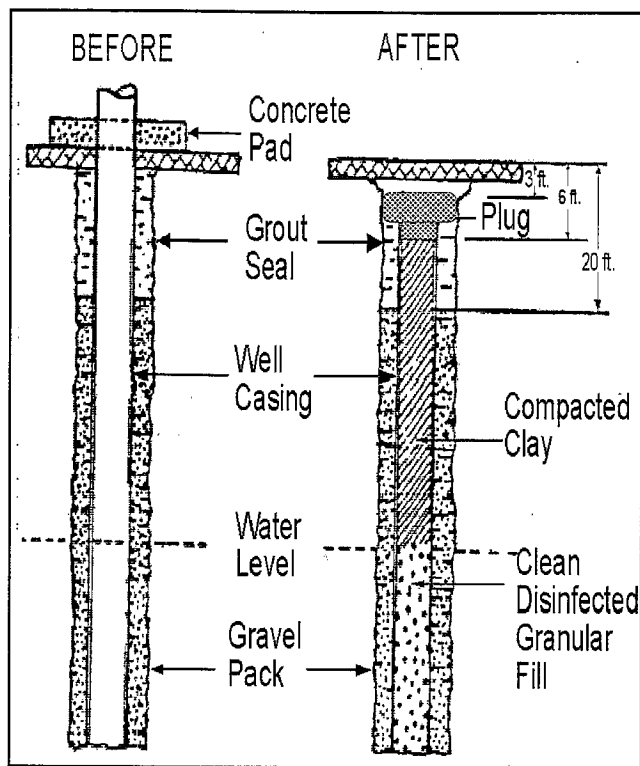

Figure 1. Plugging Diagram of Well Without Proper Annular Grouting
The following steps discuss a suggested procedure for the proper sealing of an abandoned well in an unconfined aquifer in unconsolidated rock (**Figure 1**). These situations are commonly found in Wyoming. If your well has complex construction, please contact the State Engineer's Office or a drilling contractor for proper plugging procedures.
Step 5. Placement of the plug material - Pour approved grouting material into the well. As illustrated in Figure 1 and Figure 2, the plug should be at least three feet thick.